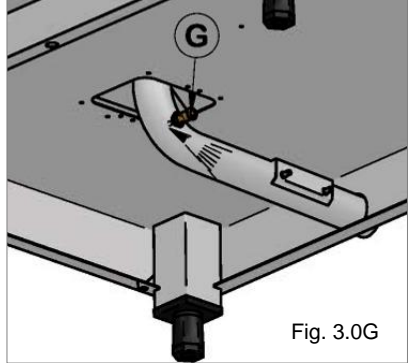

Fig. 3.0G
**3.0G Thermostat system for condensation of discharge steam (Optional):** it comprises a solenoid valve controlled by a thermostat whose sensor is housed in contact with the discharge. The solenoid valve, via the injector (G), lets cold water into the drainpipe to condense the steam when a temperature of 90°C is reached, (Fig. 3.0G).